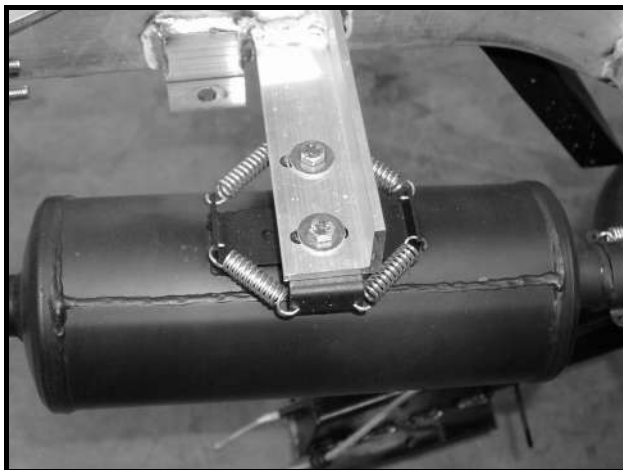

Figure 13b-11 Muffler and Bracket
The fuel system contains two fuel filters: A primary fuel filter (7), and a secondary fuel filter with an integrated water separator (8) (**Figure 13b-14, Page 13b-14**). Fuel filters, fuel lines, and the fuel tank vent should be inspected periodically for leaks and replaced when necessary. Fuel filter changes should not exceed the recommended interval. **See Periodic Service Schedule on page 10-1.**